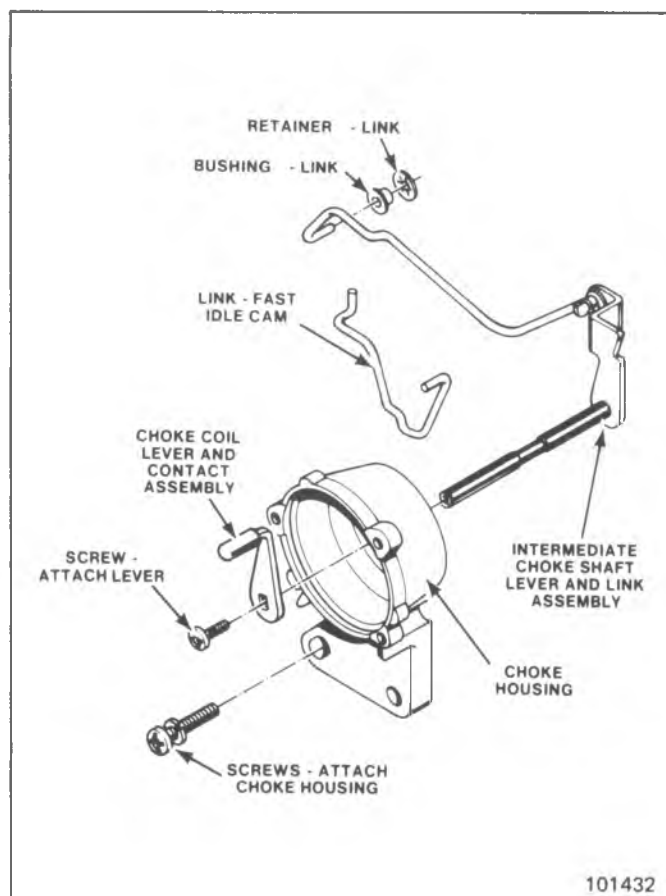

Fig. 6C2-13--Typical Choke Assembly
6. Install intermediate choke shaft and lever assembly in float bowl by pushing through from throttle lever side (Fig. 6C2-13).